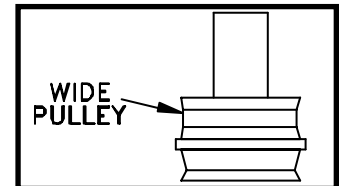

Figure 14
6. Set the wide pulley on top of the pulley divider. It is symmetrical so it can be put on either way. (Figure 14) Set the cable anchor on top of the wide pulley with the groove facing you and the notch out of the corner to your right. (Figure 15)